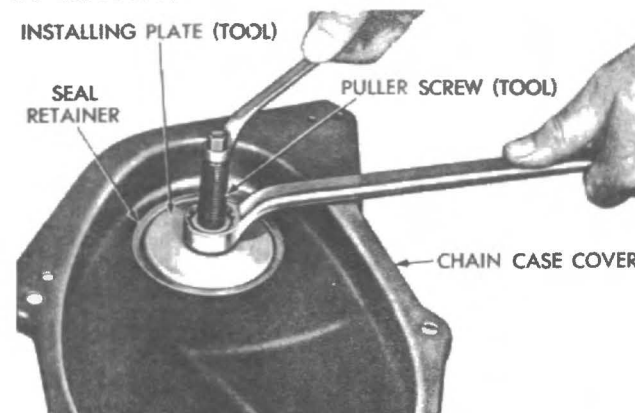

Fig. 24 - Installing new seal (Tool CA-3506). 60x163
(4) Install the flat washer and nut on puller screw; hold screw and tighten nut (Fig. 24).